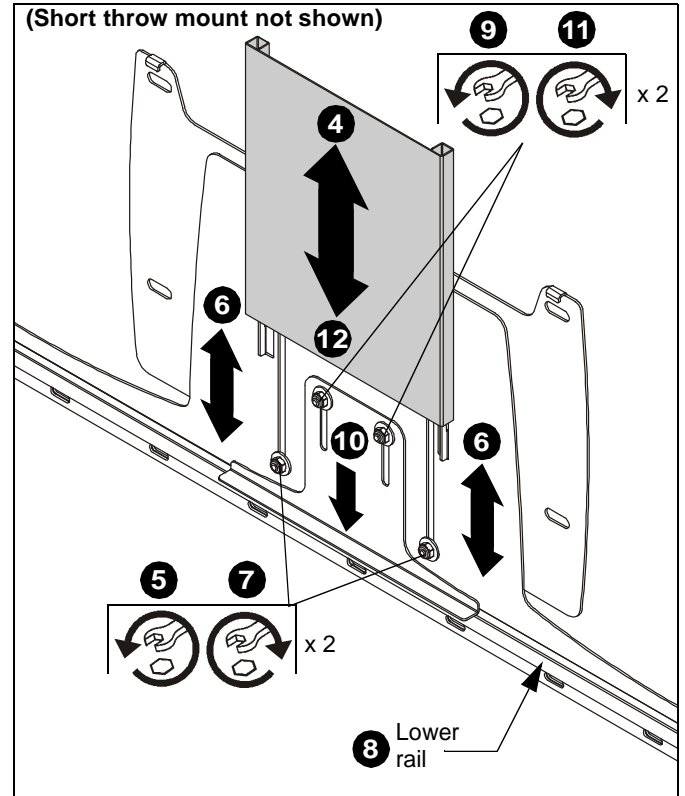
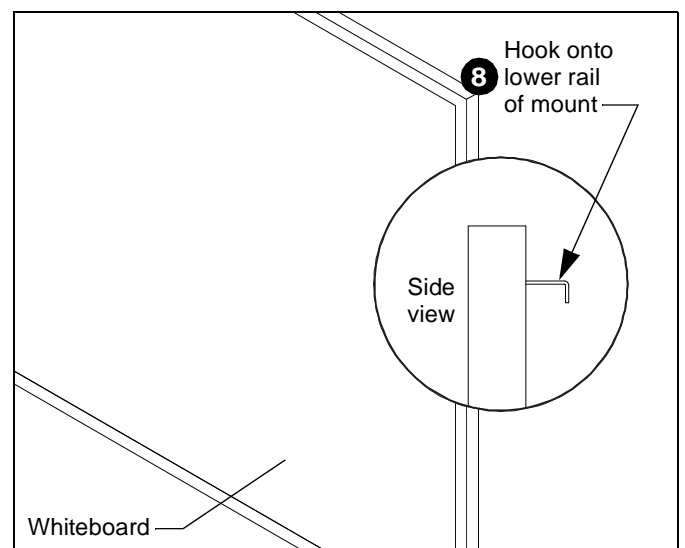

Figure 2
Figure 3
4. Slide panel up to allow access to adjustment points. (See Figure 2)
5. Loosen two outer nuts. (See Figure 2)
6. Adjust panel to set whiteboard height. (See Figure 2)
7. Tighten two outer nuts. (See Figure 2)
8. Place whiteboard onto MSP-HST1 lower rail. (See Figure 2) and (See Figure 3)
9. Loosen two middle nuts. (See Figure 2)
10. Secure whiteboard by lowering center bracket against whiteboard. (See Figure 2)
11. Tighten two middle nuts. (See Figure 2)
12. Lower cover panel into place. (See Figure 2)